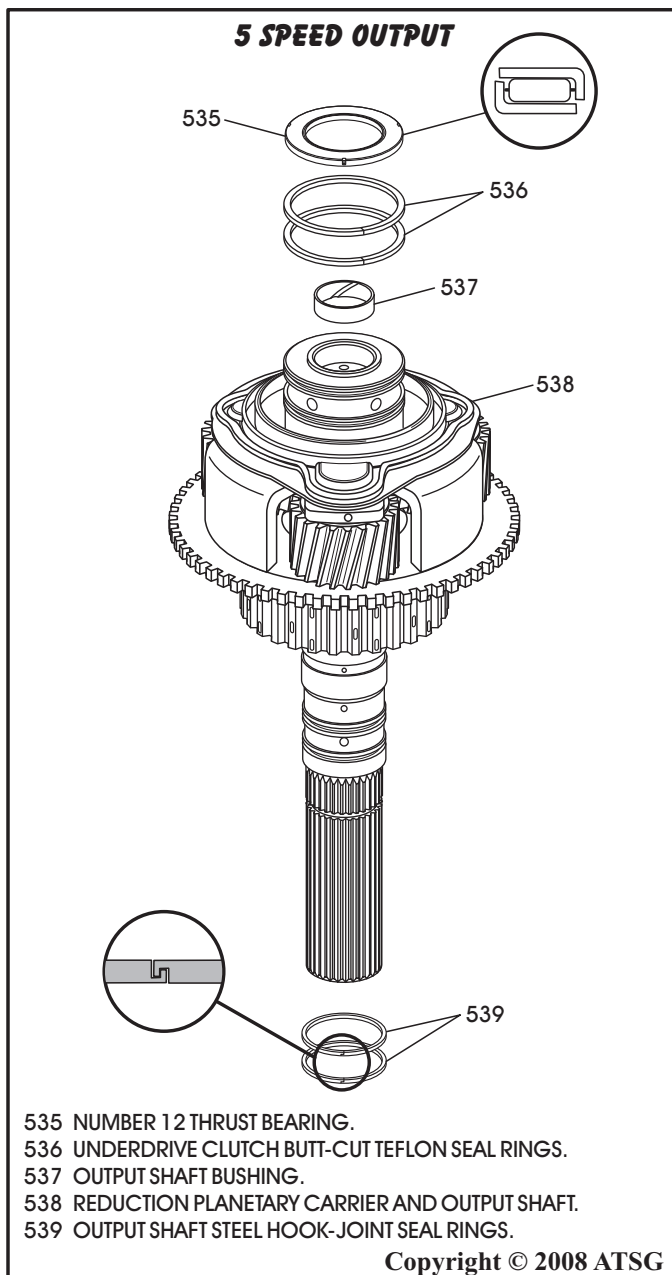
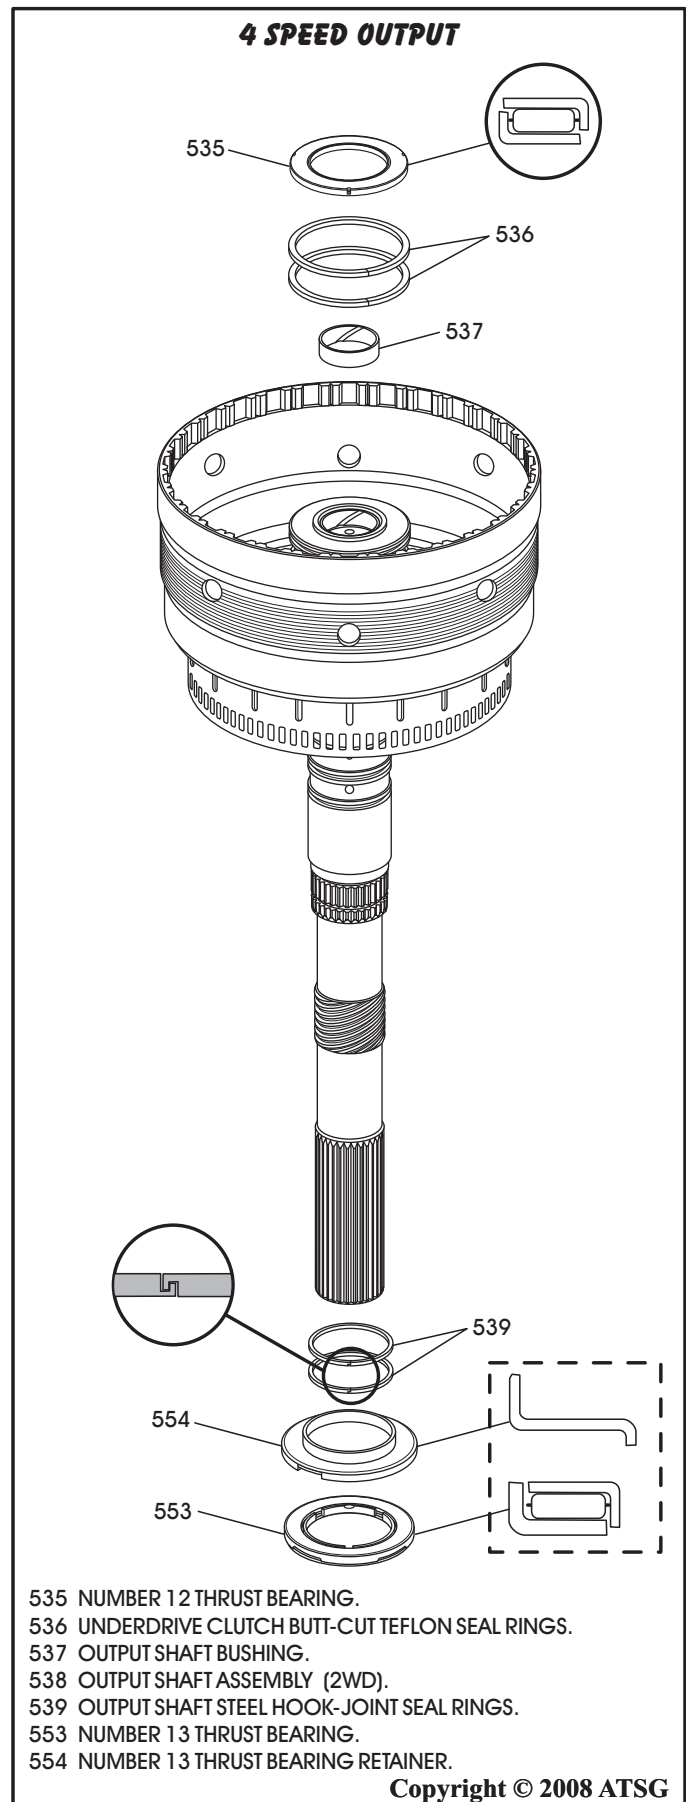

Figure 158
Figure 159
1. Install new bushing as necessary, as shown in Figure 158 and 159.
2. Install new underdrive clutch, butt-cut, Teflon sealing rings on the output shaft, as shown in Figure 158 and 159.
3. Install new steel, hook-joint, sealing rings on the output shaft, as shown in Figure 158 and Figure 159.
4. Install the number 12 thrust bearing on front of output shaft, as shown in Figure 158 and Figure 159. Retain with Trans-Jel®.